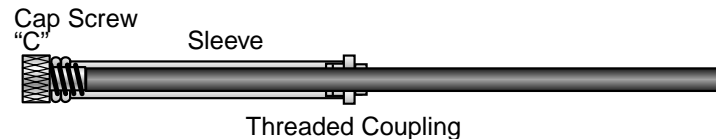

figure 5
- 4) Twist the Cap Screw "C" into either of the threaded couplings. Insert the shaft into the opposite end of the barrel (Figure 5). Hold the barrel tightly in your fist while tapping on the end of the shaft with a hammer. Sharp forceful taps will dislodge the Cap Screw "C" with the threaded coupling. For the pens that hold the cap on the back, remove the threaded coupling from the Cap Screw "C" and repeat this procedure again to remove the second threaded coupling.